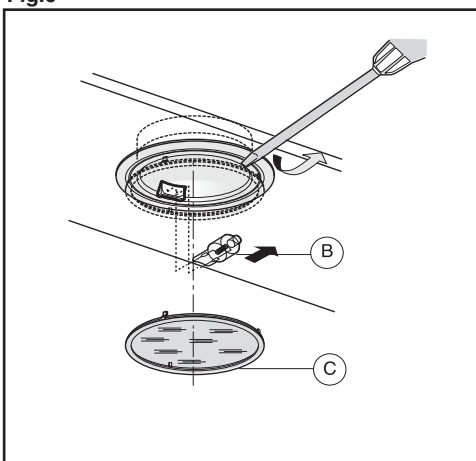

Fig.8
• Replacing halogen light bulbs (Fig. 8).